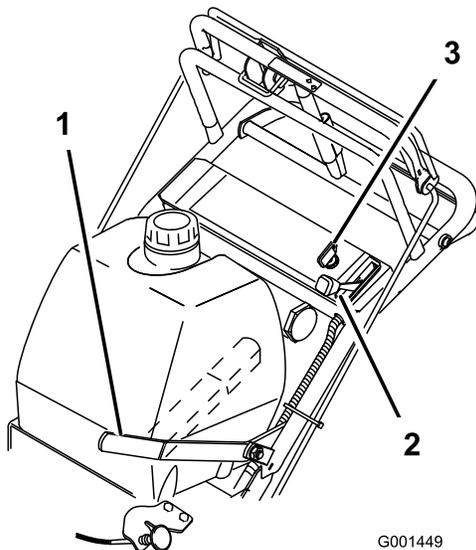

Figure 8
5. Turn the ignition key to the **run** position (Figure 8).
8. Pull the choke knob to the **on** position if the engine is cold (Figure 8).
1. Move the throttle lever to the **slow** position (Figure 8).
3. Turn the ignition key to the **off** position (Figure 8).